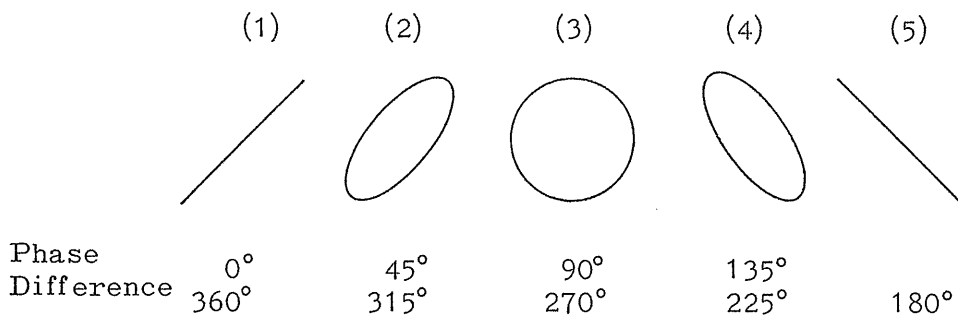

Fig. 4-5
Next, vary the frequency of the reference signal until the Lissajous' figure of 1:1 in frequency ratio shown in Fig. 4-5 is displayed. The Lissajous' figure of 1:1 in frequency ratio is one of a cycle, ellipse or linear line. When frequency ratio is around 1:1, the figure varies continuously and repeatedly from (1) to (5). As frequency ratio becomes closer to 1:1, motion is slow. When both frequencies coincide completely, the figure becomes still in either shape. The unknown frequency then is equal to the reference frequency.